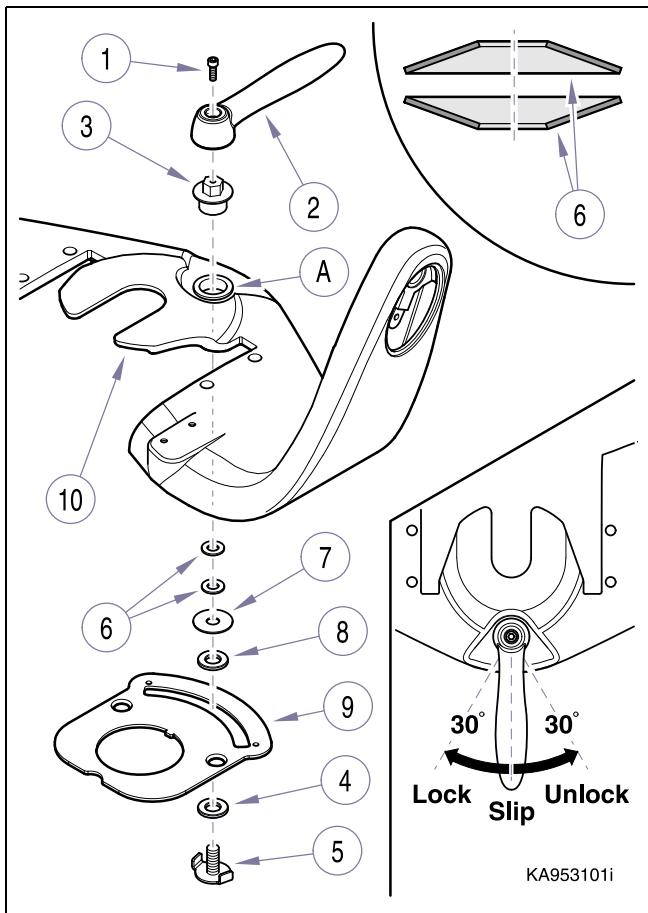

Figure 4-4. Rotational Brake
- (2) Unplug chair power cord, remove safety bail and end covers (refer to para 4.3).
- (3) Remove allen screw (1, Fig. 4-4) and handle (2) using a 5/32" allen wrench.
- (4) Remove spacer nut (3), lower thrust bearing (4), and rotation stop weldment (5) using a 9/16" wrench.